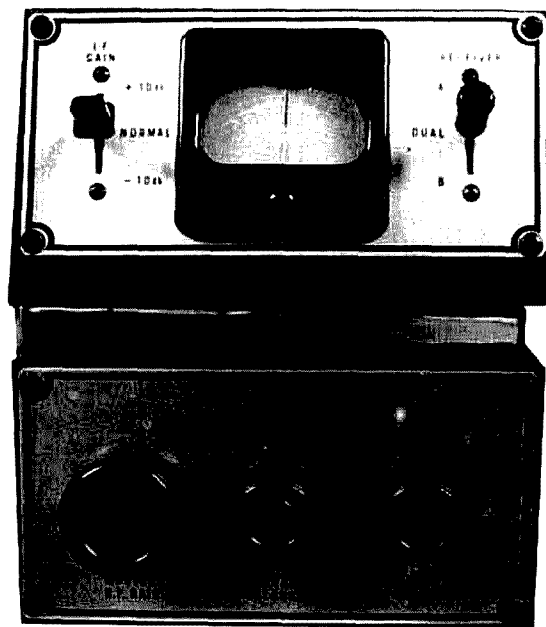

fig. 12. The right-hand control panel. The S-meter is a differential type.
**Right-hand panel.** The right-hand control panel, fig. 12, has a zero-center meter used as a differential S-meter; it reads the difference in signal strength between the two receivers. Under poor propagation conditions it's fascinating to watch this meter swing back and forth as first the vertical then the horizontal signal predominates, while the combined S-meter remains relatively constant. At times like this the advantages of diversity reception become most apparent.